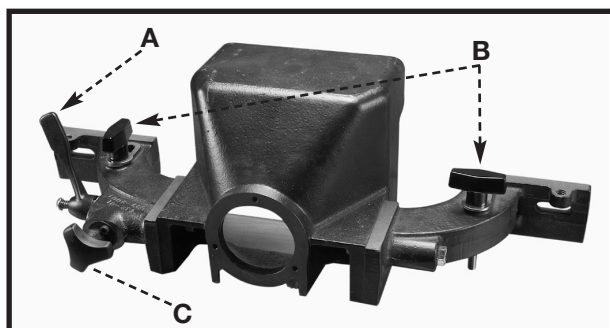

Fig. 30
Each fence can move separately in or out, depending on the shaping operation. To move the fence, loosen lock handle (A) Fig. 30 and loosen the corresponding knob (B). Turn the knob (C) for the correct setting, then tighten both the knob (B) and the lock handle (A).
The lock handle (A) Fig. 30 is spring-loaded and can be repositioned by pulling it out and changing its position on the serrated nut.